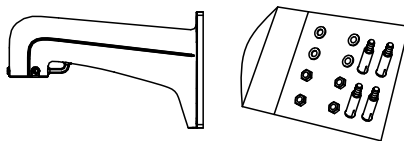

Figure 2-4 Wall Mounting Bracket
- The bracket in Figure 2-4 is the recommended bracket for this series of speed dome, and a pendant adapter is required if any other bracket is selected. The dimension of pendant adapter is $G1\frac{1}{2}$.
- 1) Get the bracket and screws from the packing box as shown in Figure 2-4.